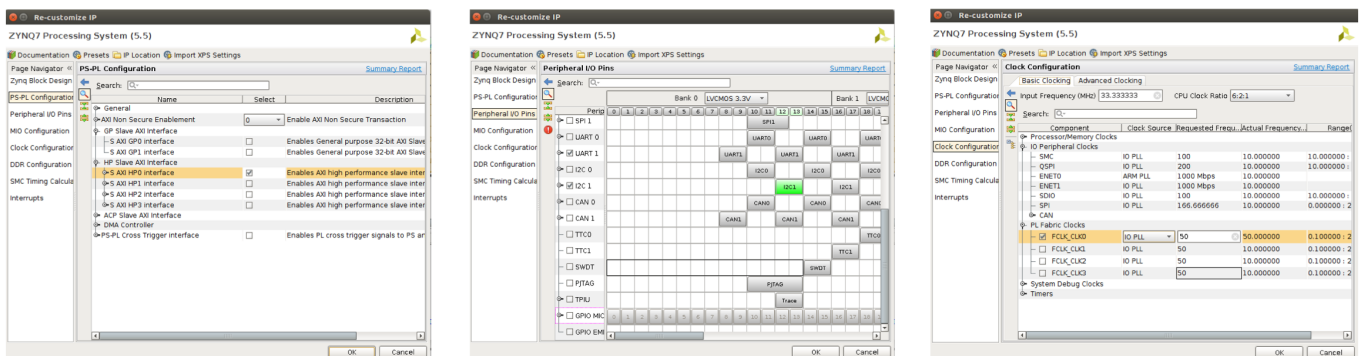

Figure 20: Zynq Wizard (left) PS-PL Configuration (centre) Peripherals Timing (right)
- Click on PS-PL Configuration -> HP Slave AXI Interface and De-select S AXI HPO INTERFACE (see Figure 20 (left))
- Click on Peripherals I/O Pins and leave ticked only the peripherals which we are using (see Figure 20 (centre)):
- Clock Configuration. Select only FCLK_CLK0 and change its value to 50 MHz. (see Figure 20 (right))